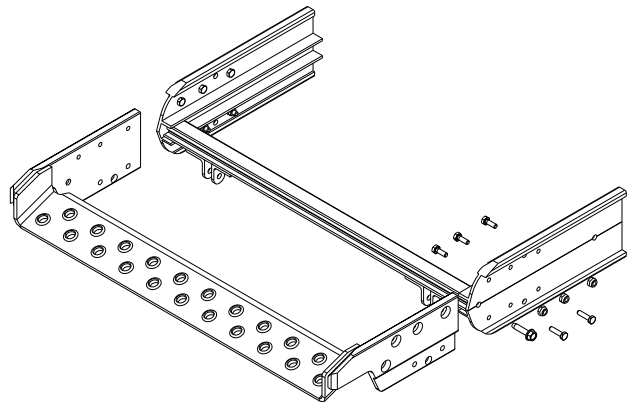

FIG. 5
- b. Install new spring bracket tie rod, then slide new apron onto end of ramp (see Fig. 5). You may need to tap it lightly with the rubber mallet if it is a tight fit.